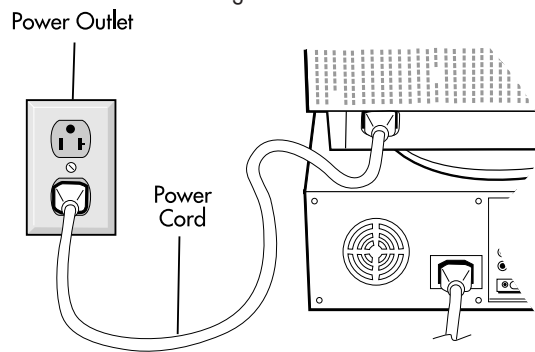

Figure C.1
5. Connect one end of the power cord to the MultiSync FE700+ monitor and the other end to the power outlet (**Figure C.1**).